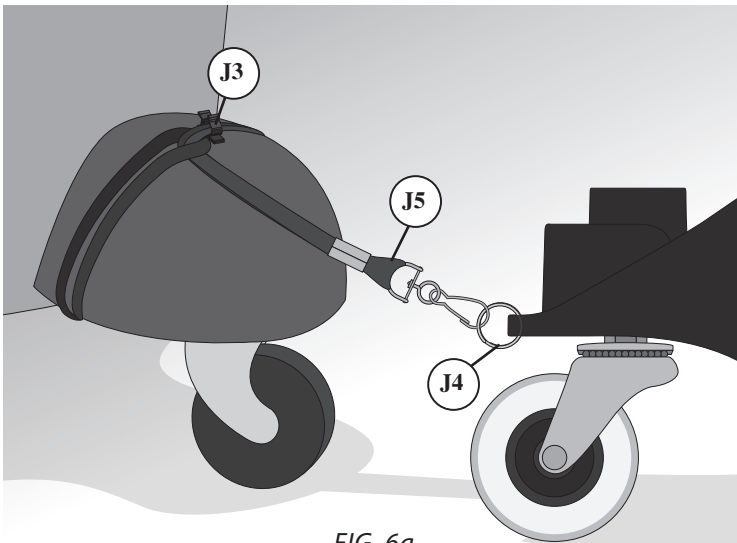

FIG. 6a
- a. Attach the Split Ring (J4) to the slot on the Caster Mount (G) and attach the Retainer Clip (J3) onto your vacuum's foot caster. Then loop the Lanyard (J5) around your vacuum's foot caster and through itself and the Retainer Clip. Finally, clip the Lanyard to the Split Ring. [FIG 6a]